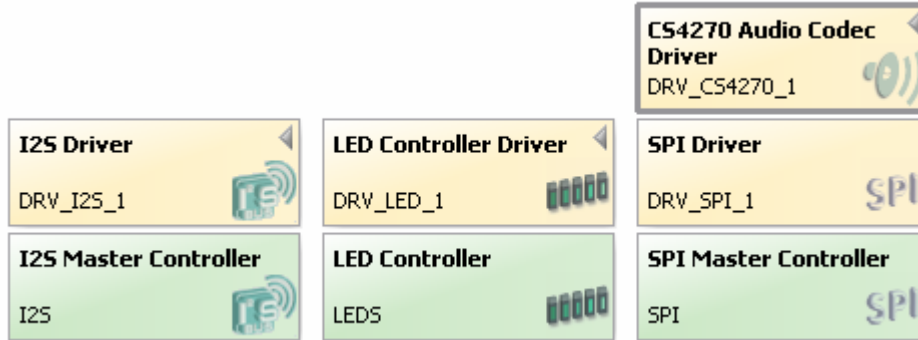

Figure 18. Then add the specific audio driver.
- Select the SPI Driver and click the **Grow Stack Up** button to open the *Grow Stack* dialog. The audio codec on the NB3000 is a Cirrus Logic CS4270, select the driver for this and click OK to close the dialog, as shown in Figure 18. This device uses SPI for configuration and control, and I2S for digitized audio data transfer.